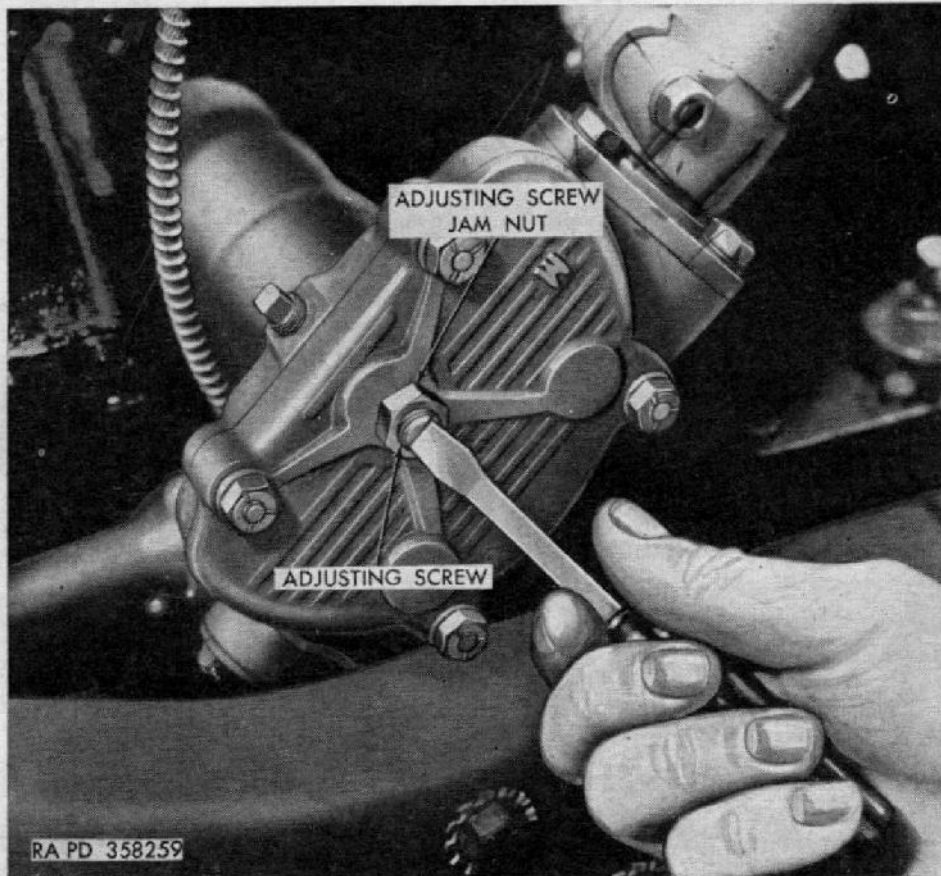

Figure 124. Steering gear adjustment.
*a. Removal.* Raise hood (par. 216) and disconnect cables at connectors on horn switch. Pry rubber cap from nut securing steering wheel. Lift off horn button. Remove nut securing steering wheel. With puller 41-P-2954, remove the steering wheel. Remove spring from steering column to avoid loss when steering wheel is being removed from complete steering gear (fig. 124) removal (par. 208).
## 208. Steering Gear (fig. 124)